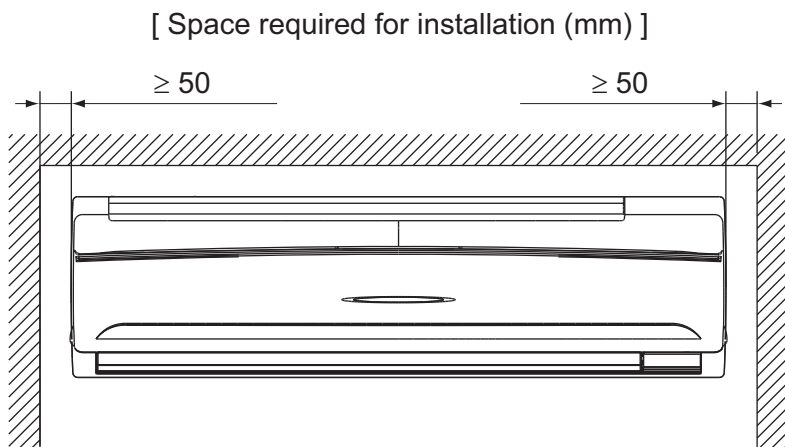
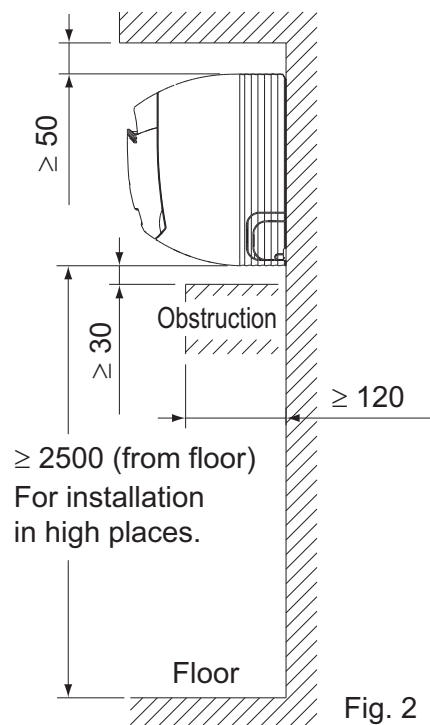

Fig. 1
Fig. 2
**(1) Select an installation site where the following conditions are fulfilled and that meets with your customer's approval.**
- (Refer to Fig. 1 and Fig. 2)**
Use the graph or table to determine the minimum floor area. See figure 1 on the inside of the front cover.